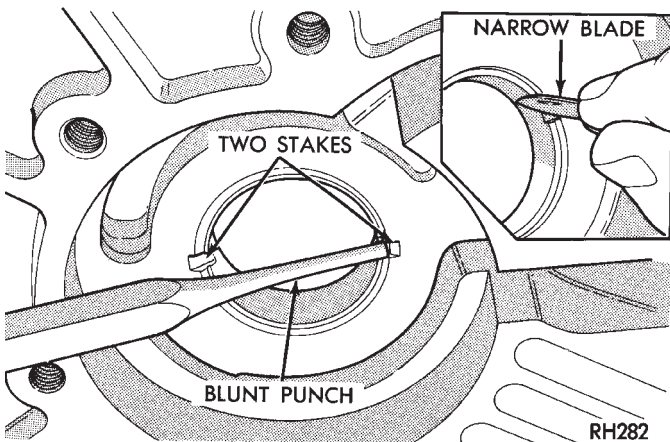

Fig. 142 Staking Oil Pump Bushing
(3) Stake new pump bushing in two places with blunt punch (Fig. 142). Remove burrs from stake points with knife blade afterward.